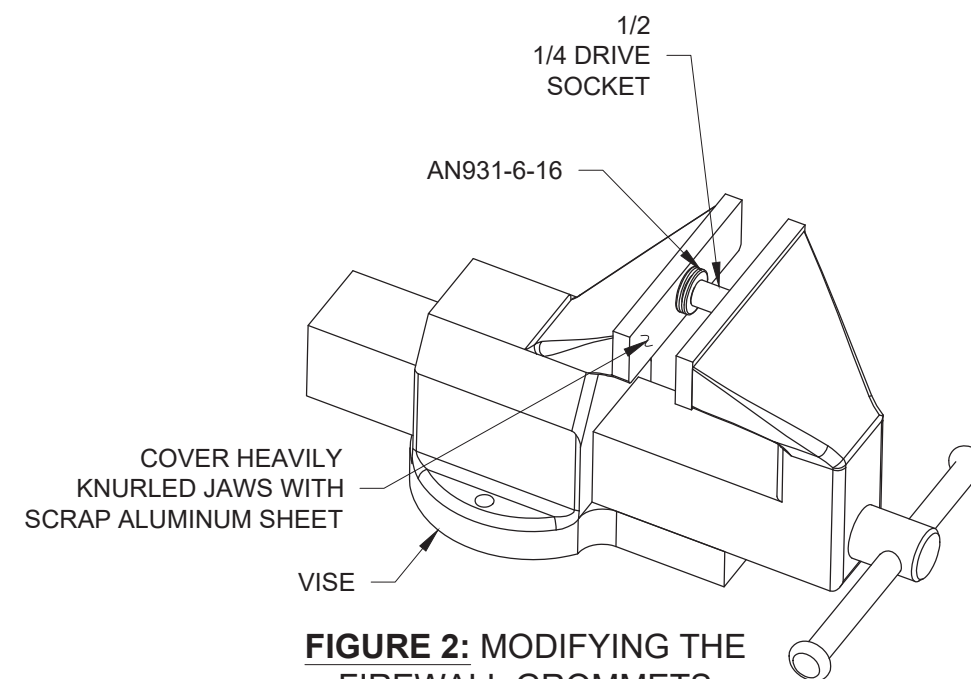

FIGURE 2: MODIFYING THE FIREWALL GROMMETS
Step 5: Modify a grommet to be used for firewall penetration. Using a socket and a vise, squeeze one grommet at a time (as called out in Figure 2) until the socket shears through the grommet (this will be accompanied by a distinct crunching sound). See Figure 2.